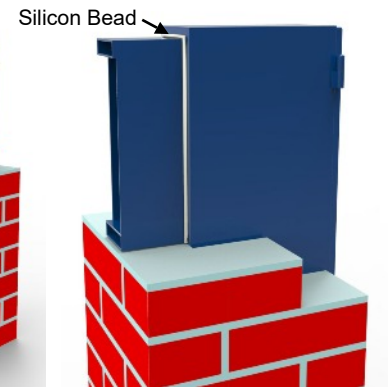

Fig 4
- Locate the chute (*C*) through the access hole so that the bottom of the chute finishes 5mm in from the front face of the brickwork. *Fig 4*. (The top of the chute protrudes 5mm further than the bottom). Place a bead of silicon around the joint to seal.